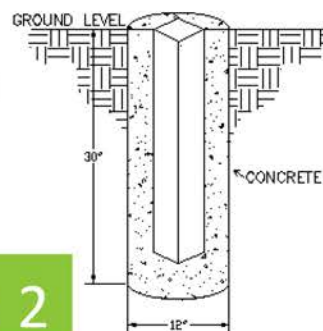

Fig. 2
1. Dig holes for the posts, making sure not to disturb the stakes for the string. The string may be removed and replaced after holes are dug. The holes should be approximately 12" in diameter and 30" deep (depending on local codes). Holes should be dug so that they allow equal amounts of concrete on all sides of posts (see Fig. 2).